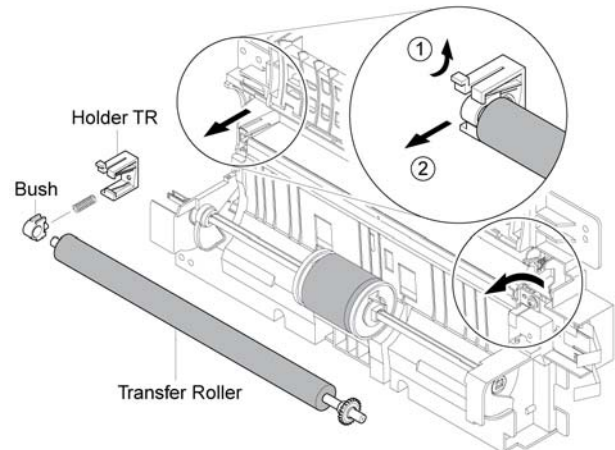

Figure 2
6. Unlatch the TR holder from the frame, then release the transfer roller in the direction of the arrow, Figure 2.